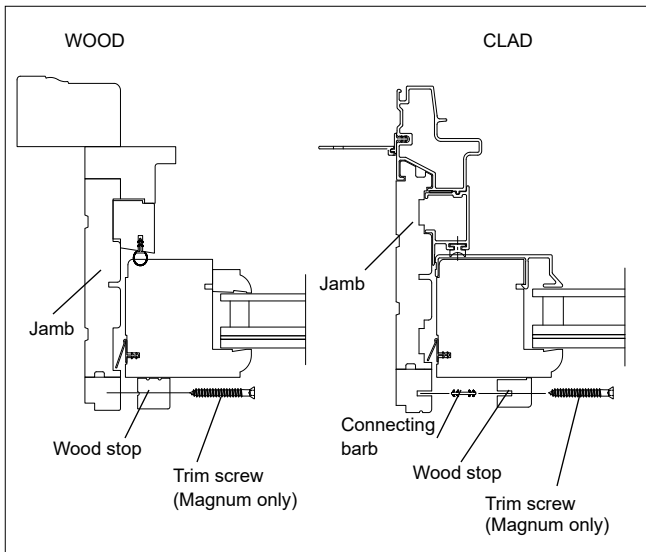

Figure 5
- After the unit has been secured into the opening, install the supplied wood stops. On UDHMP units, use included trim head screws. See figure 5. WUDHP stops are installed with 1 1/8" (29) brad nails spaced 6" (152) from each end and 6" (152) on center.